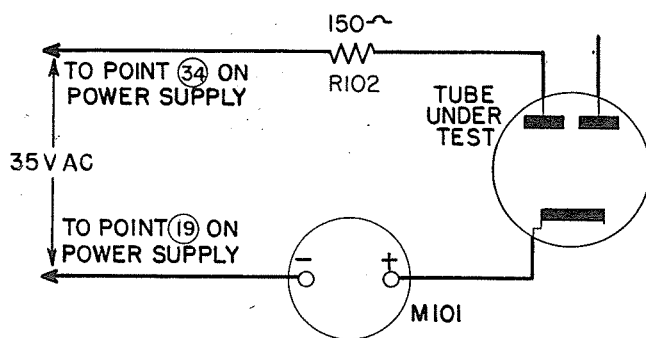

Figure 2-6. Simplified Rectifier Test Circuit
7. RECTIFIER TEST. (See figure 2-6).
e. Pressing the button P6 sets up a circuit similar to figure 2-6, but a higher voltage is applied, 330 volts ac, for testing rectifier of the cold cathode type such as the OZ4.
f. Pressing button P2 also establishes a circuit similar to figure 2-6, but a lower voltage, 20 volts ac, is used to protect the delicate cathodes of diode detector types such as the 6H6.